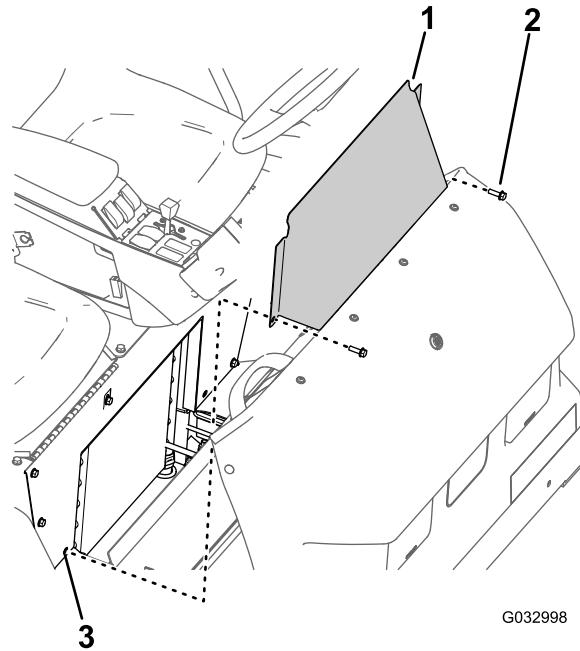

Figure 64
1. Remove the 2 flanged-head bolts that secure the seat-base-access panel to the seat base (Figure 64).
2. Remove the seat-base-access panel from the machine (Figure 64).
1. Align the holes in the seat-base-access panel with the holes in the seat base (Figure 64).
2. Assemble the seat-base-access panel to the seat base with the 2 flanged-head bolts (Figure 64) that you removed in step 1 of Removing the Seat-Base-Access Panel \(page 53\).